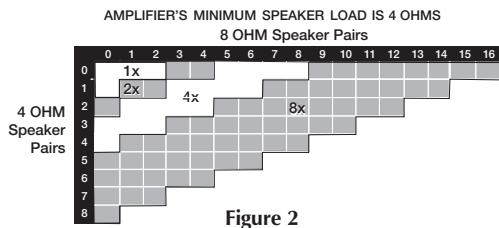
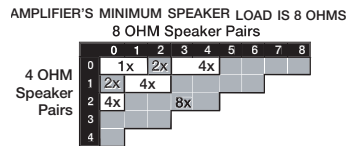

Figure 2
Figure 3
3. Read the correct switch position from the charts on the next page. See **Figure 2** if your amplifier can drive a 4-ohm load. See **Figure 3** if your amplifier must have an 8-ohm speaker load.